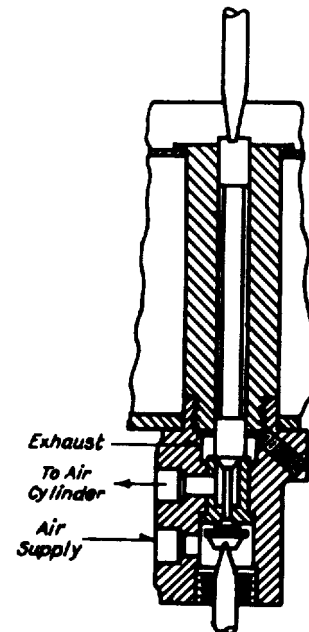

Figure 28. Method of grinding standard valve.
(1) *Standard valve* (fig. 28).